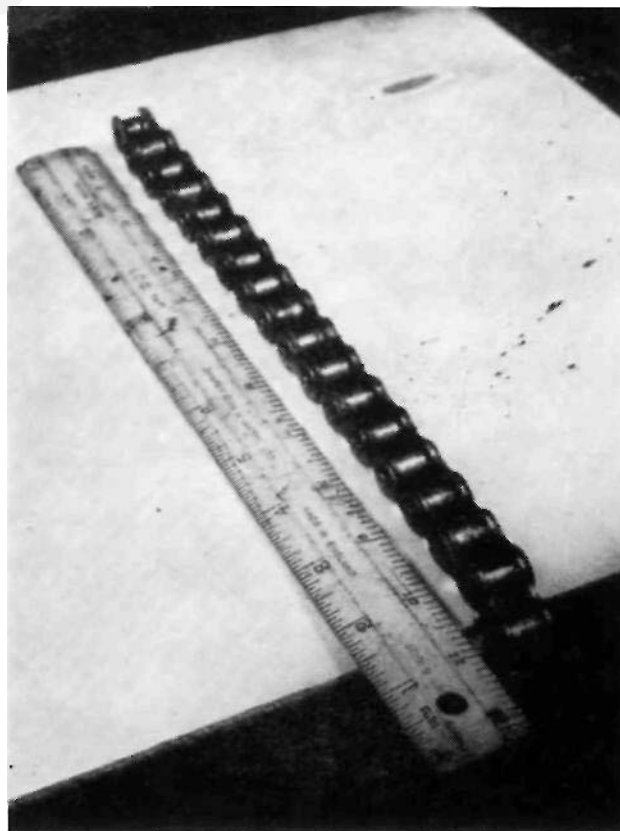

FIG. 93
**Checking the chain for wear.** A simple and practical method to decide if the chain has reached the rejection limit is shown in Fig. 93.